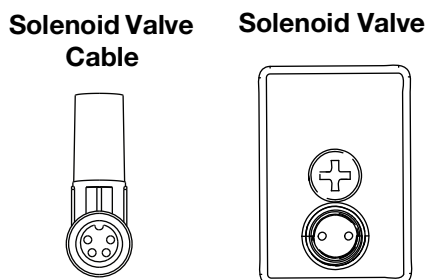
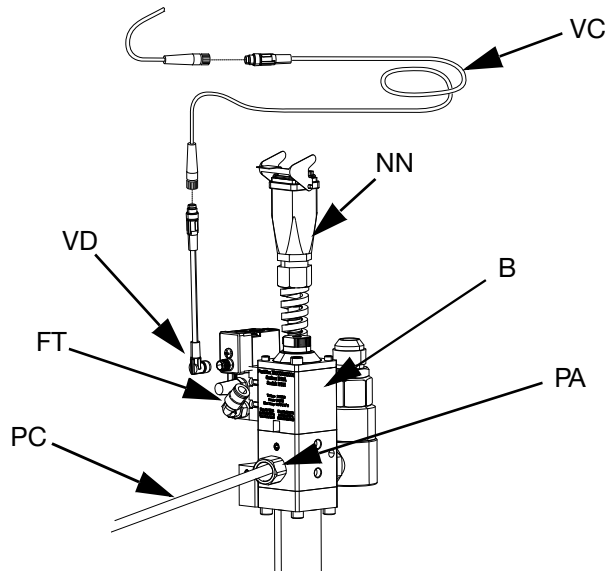

FIG. 30
FIG. 31
- Connect the Air Line (AR) (not supplied) to the air fitting (FT) on the dispense valve solenoid. See the iQ Dispense Valves Instructions-Parts manual. See FIG. 31.
- a. Connect the solenoid valve cable (VC) to the M8 4 pin end of the splitter cable attached to Port 4 on the Electric Driver (AB). See **Electric Driver Communication Connections** for Single Rams on page 18. See FIG. 31.
- b. Connect the 90 degree end of the included M8 4 pin cable (VD) to the dispense valve, and the straight end of the solenoid valve cable to (VC). See FIG. 31.
- a. Connect the dispense valve solenoid cable to the tandem dispense valve solenoid connector (YY) on tandem block (R).
- b. Connect the 90 degree end of the included M8 4 pin cable (15N040) to the dispense valve, and the straight end of the solenoid valve cable to (VC). See FIG. 31.
- c. Connect one male end of the M8 4 pin splitter (TT) on the tandem block (R) to the M8 4 pin end of the splitter cable attached to Port 4 on the Electric Driver (AB) for ram 1 and ram 2. See **Electric Driver Communication Connections** for **Tandem Rams** on page 19.
**NOTE:** Make sure the pins on the solenoid valve cable are oriented as shown in FIG. 30 before the cable is plugged into the solenoid valve.